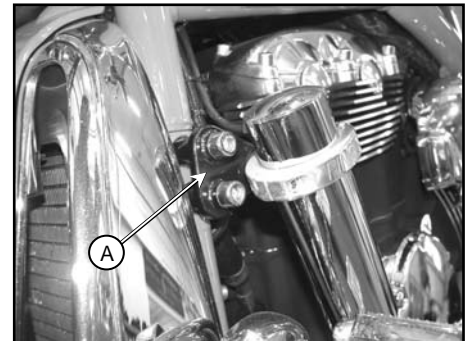

Figure 1
A steel shift cylinder support bracket (A in figure 1) with half of the Pingel shift cylinder clamp is mounted to the frame. Remove the clamp from this assembly so the steel support bracket can be painted; note the order of assembly and do not lose any parts especially the thin shim. Use a pencil to trace an outline of the large washer on each side of the bracket. Mask this area before painting. Failure to mask this area may result in improper shifter operation. Remove the clamp from this assembly so the steel support bracket can be painted. Do not remove any of the grease from the bushings; it is required for smooth operation. After painting, reinstall the clamp half using the supplied thread locker (make certain it is installed exactly as it was prior to removal). The support bracket mounts where the left side lower and upper frames connect. Remove the stock bolts and install the steel shift cylinder support bracket using the two 10mm x 75mm stainless socket head cap screws supplied, as shown in Figure 1.
Install the electric shift cylinder onto the shift cylinder support bracket using the Pingel clamp and (2) ¼-20 x ¾" socket head cap screws as shown in Figure 1. Tighten these bolts for now, but adjustment will be needed later. The rod end on the shift cylinder should be able to go past the point of mounting in each direction sideways. The point of mounting is that flat surface upon which the rod end bolts to the shift lever bracket allowing for the thin flat ¼" washer(s), if needed (four are supplied, use as many as required to achieve proper alignment). It is imperative that there is no side pressure or tension on the electric shift cylinder shaft when it meets its flat surface upon the Pingel shift peg bracket when it is bolted as this would take away valuable power from the electric shift cylinder resulting in binding and missed shifts. If the rod end does not line up correctly, you can either add another thin ¼" flat washer to the existing washers to move the rod end away from the shift peg bracket, or remove one or more of the thin flat ¼" washers to move the rod end closer to the shift